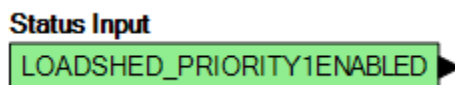

Figure 138. Priority 1 Load Enabled Logic Input
As available generators are brought online, the online kW capacity increases. When the online kW capacity becomes greater than the sum of a load priority level's Load kW value, the Add Reserve value, and any enabled Add Reserve Bias values for the duration of the Add Delay, the corresponding logic input (Figure 138) becomes true. The true input can be linked to an output which can in turn close the breaker to the corresponding load, thus adding it to the system. Loads with lower load priority numbers are added first, starting at one (1). A load priority with a number of zero (0) is disabled and excluded from load adding/shedding functions. Up to 16 Add Reserve Bias values can be added cumulatively to the default Add Reserve value by enabling the corresponding load shed bias enable (LDSHEDBIASENABLE1-16) logic elements.
When the Shed Load input of the load shed (LOADSHED) logic element is true, the loads with higher load priority numbers are shed first and their corresponding logic inputs (Figure 138) become false. A load priority with a number of zero (0) is disabled and excluded from load adding/shedding functions. The first load is immediately shed and subsequent loads are shed after the duration of the Shed Delay. Loads are shed one at a time and the Shed Delay must elapse between iterations. The same process is followed when the Shed Load Fast input of the load shed (LOADSHED) logic element is true, except the Shed Fast Delay is used instead.